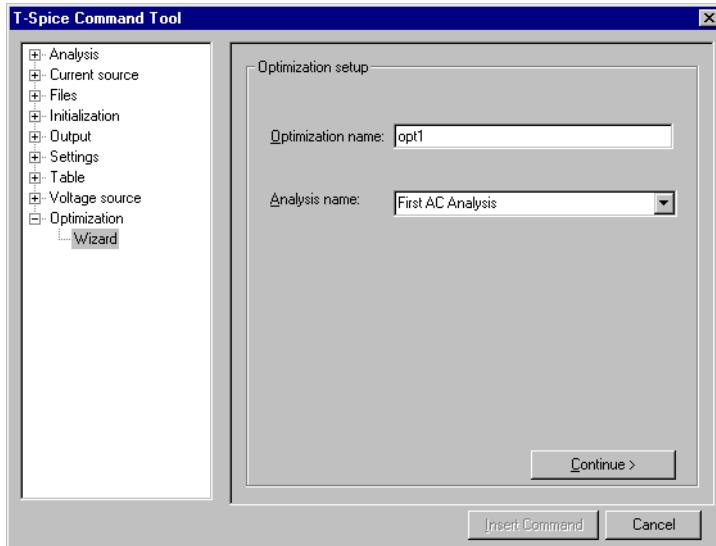

Figure 94: Customizing the optimization setup
- Enter **opt1** in the **Optimization name** field and type or select **First AC Analysis** as the **Analysis name** (Figure 94).